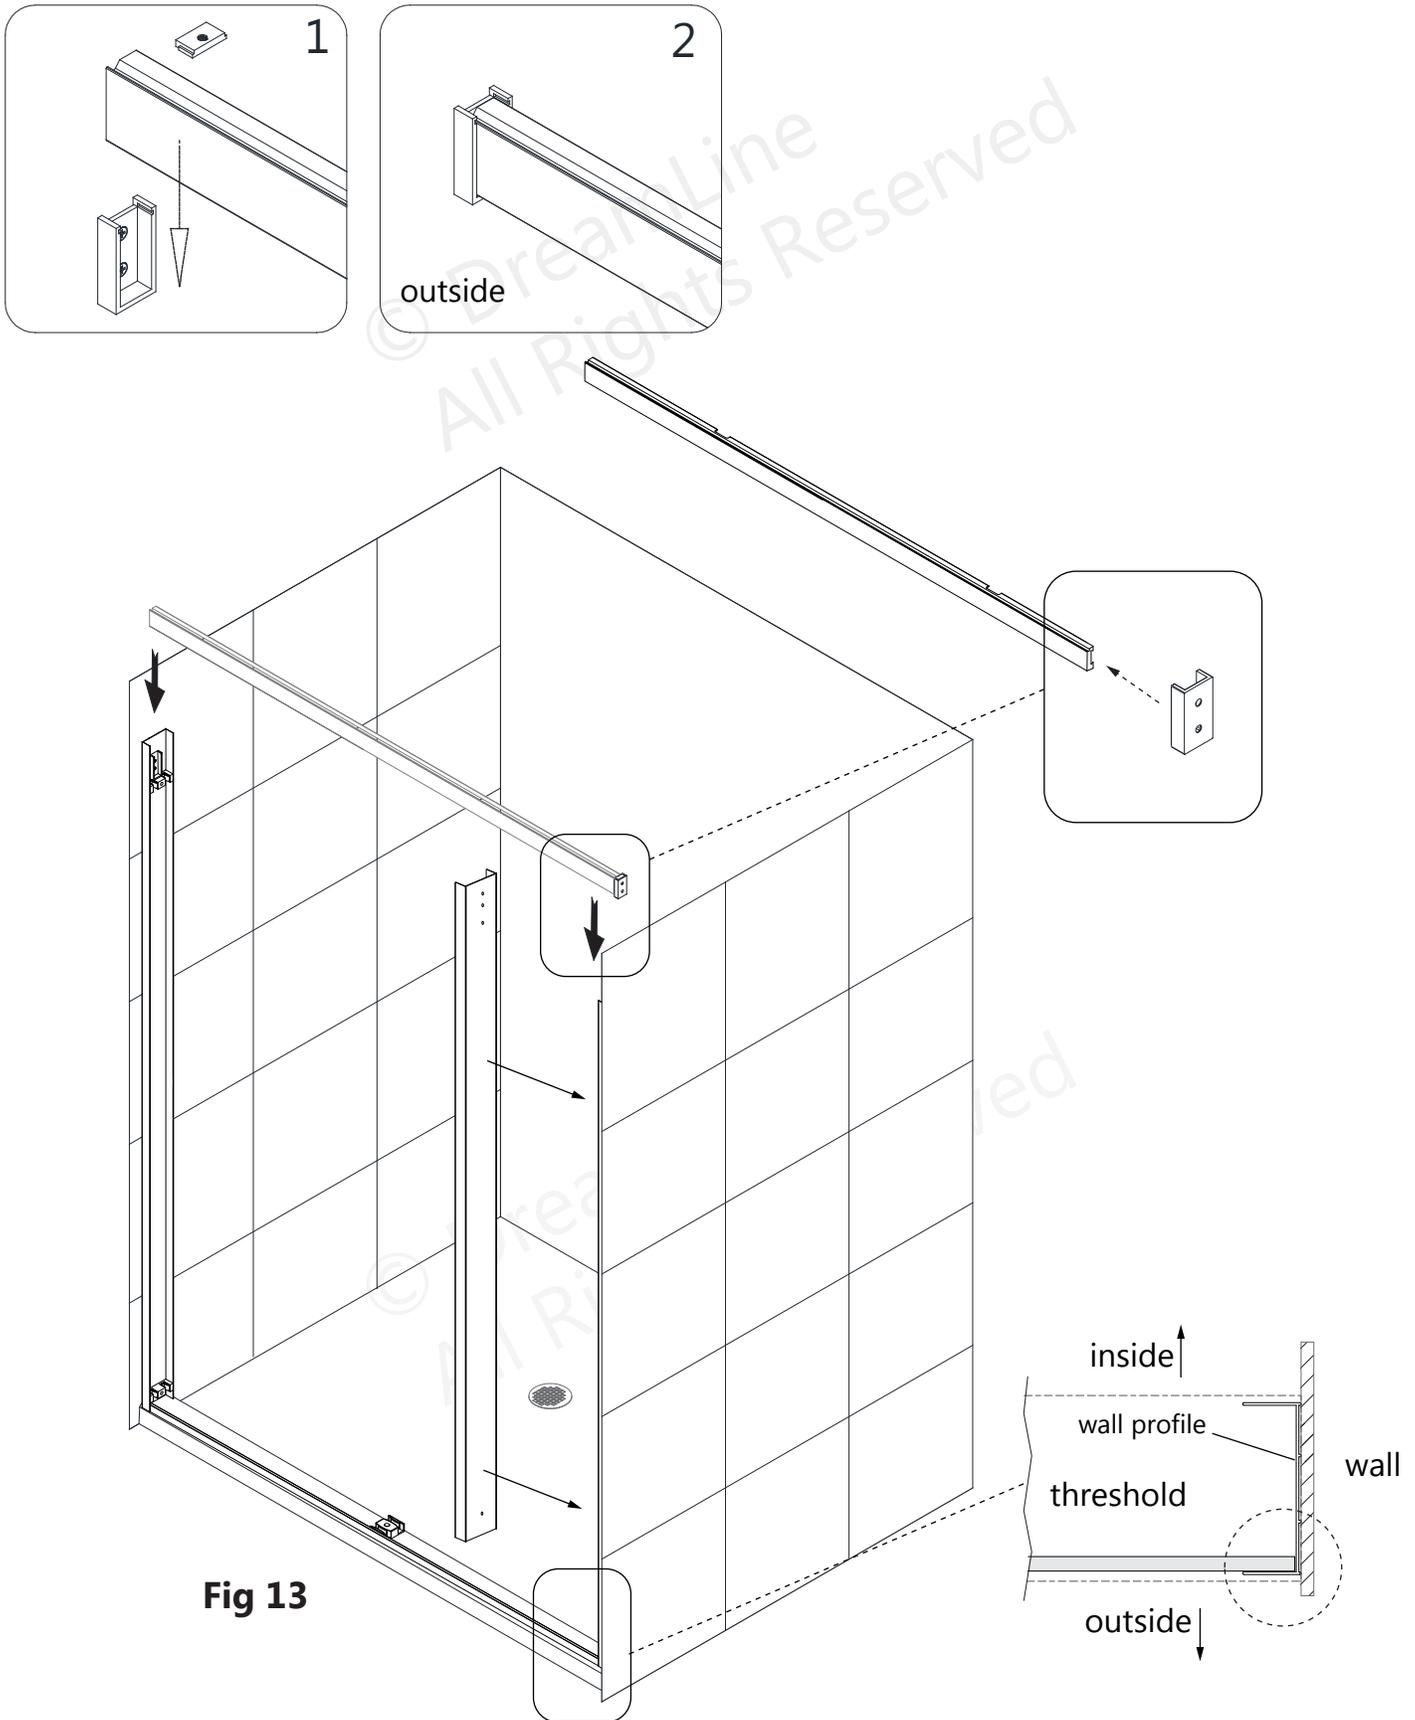

Fig 13
13. Attach the remaining **Guide Rail Bracket Assembly (#02)** onto the opposite end of the **Upper Guide Rail (#01)**. Place the **Upper Guide Rail (#01)** into the installed **Guide Rail Bracket Assembly (#02)**, and position the remaining **Wall Profile (#19)** on the opposite wall. **(Fig 13)**